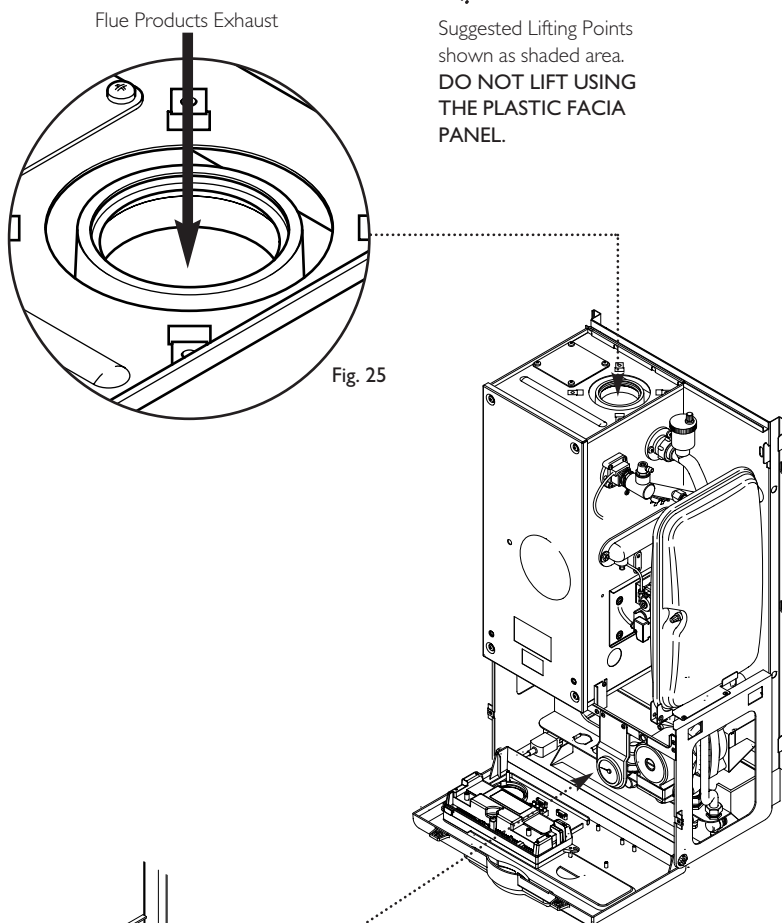

Fig. 25
**NOTE:** To ensure the correct operation and integrity of the condensate drainage system - Carefully pour approximately 1 cupful (250ml) of water into the flue products exhaust, at the top of the heat exchanger (Fig. 25) to ensure a seal is made in the trap.